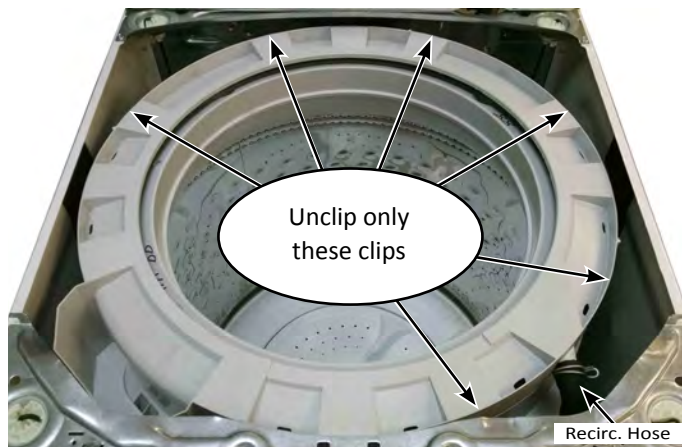

Figure 4
2. Locate the six (6) tub ring clips illustrated in Figure 4. Unclip each clip with a "stubby" flat blade screwdriver.